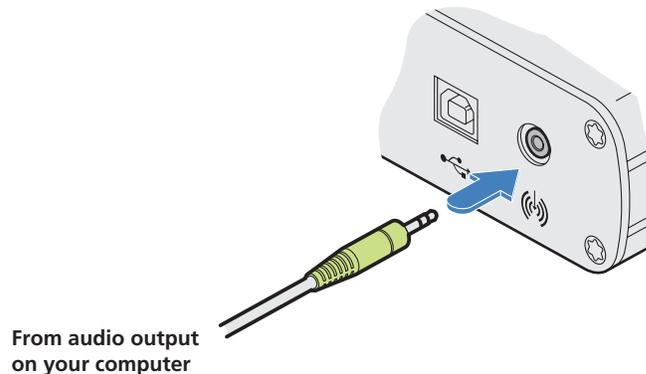

Figure 3-3. Connecting an audio cable to the local module.
1. Connect an audio link cable between the audio socket on the local module rear panel and the speaker/audio output socket of your host computer. See Figure 3-3.